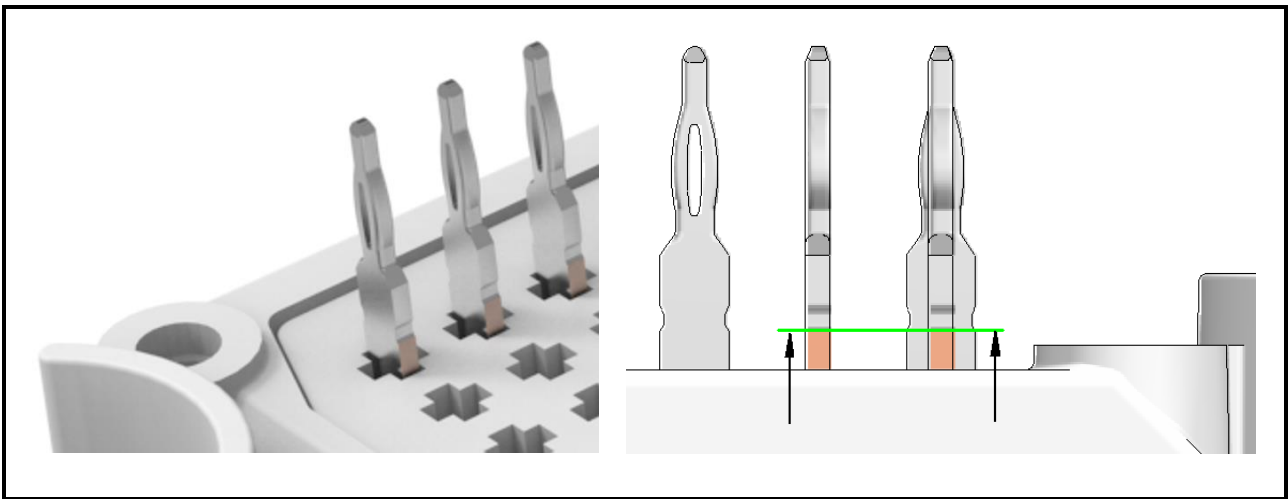

Figure 4: Copper visible on Press-fit pins
- The Press-fit pins of *flow* E3BP modules are plated with continuous tin finish and nickel underlayer to promote Press-fit function and solderability. Due to process and storage conditions the copper may become visible on the bottom of the pin up to the green line indicated on the picture (Figure 4: Copper visible on Press-fit pins). This is merely a cosmetic imperfection and does not influence the Press-fit function or solderability of pins as it does not affect the plating quality of the head of the pin.